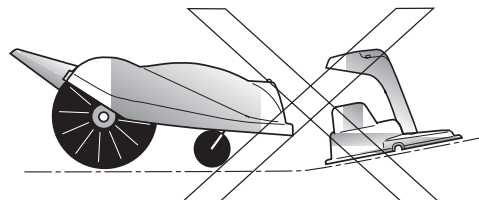

Fig.2
- The charging station must be level in relation to the mower (figs. 2 and 3).